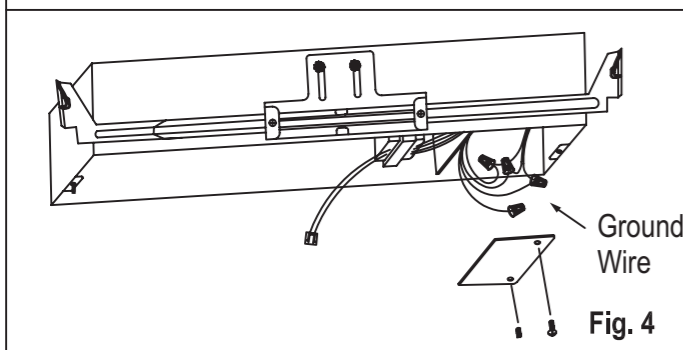
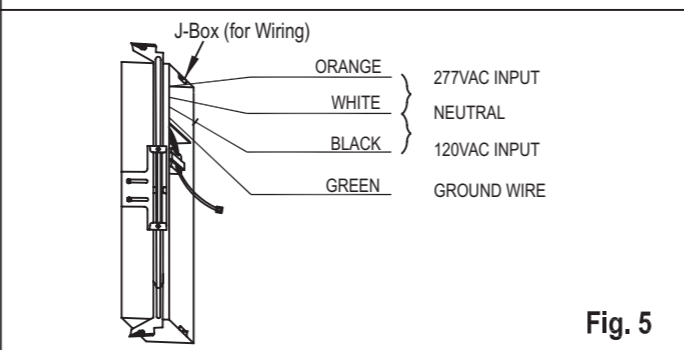

Fig. 4
Fig. 5
4. Dual 120/277VAC selectable input. Make proper electrical connections at J-Box in the metal box or at junction box in the ceiling of the building. (Fig. 4) If using 120VAC, connect the black and white leads to the building utility. Cap off unused wire. In all cases, use standard wire nuts to connection leads. (Fig. 5)